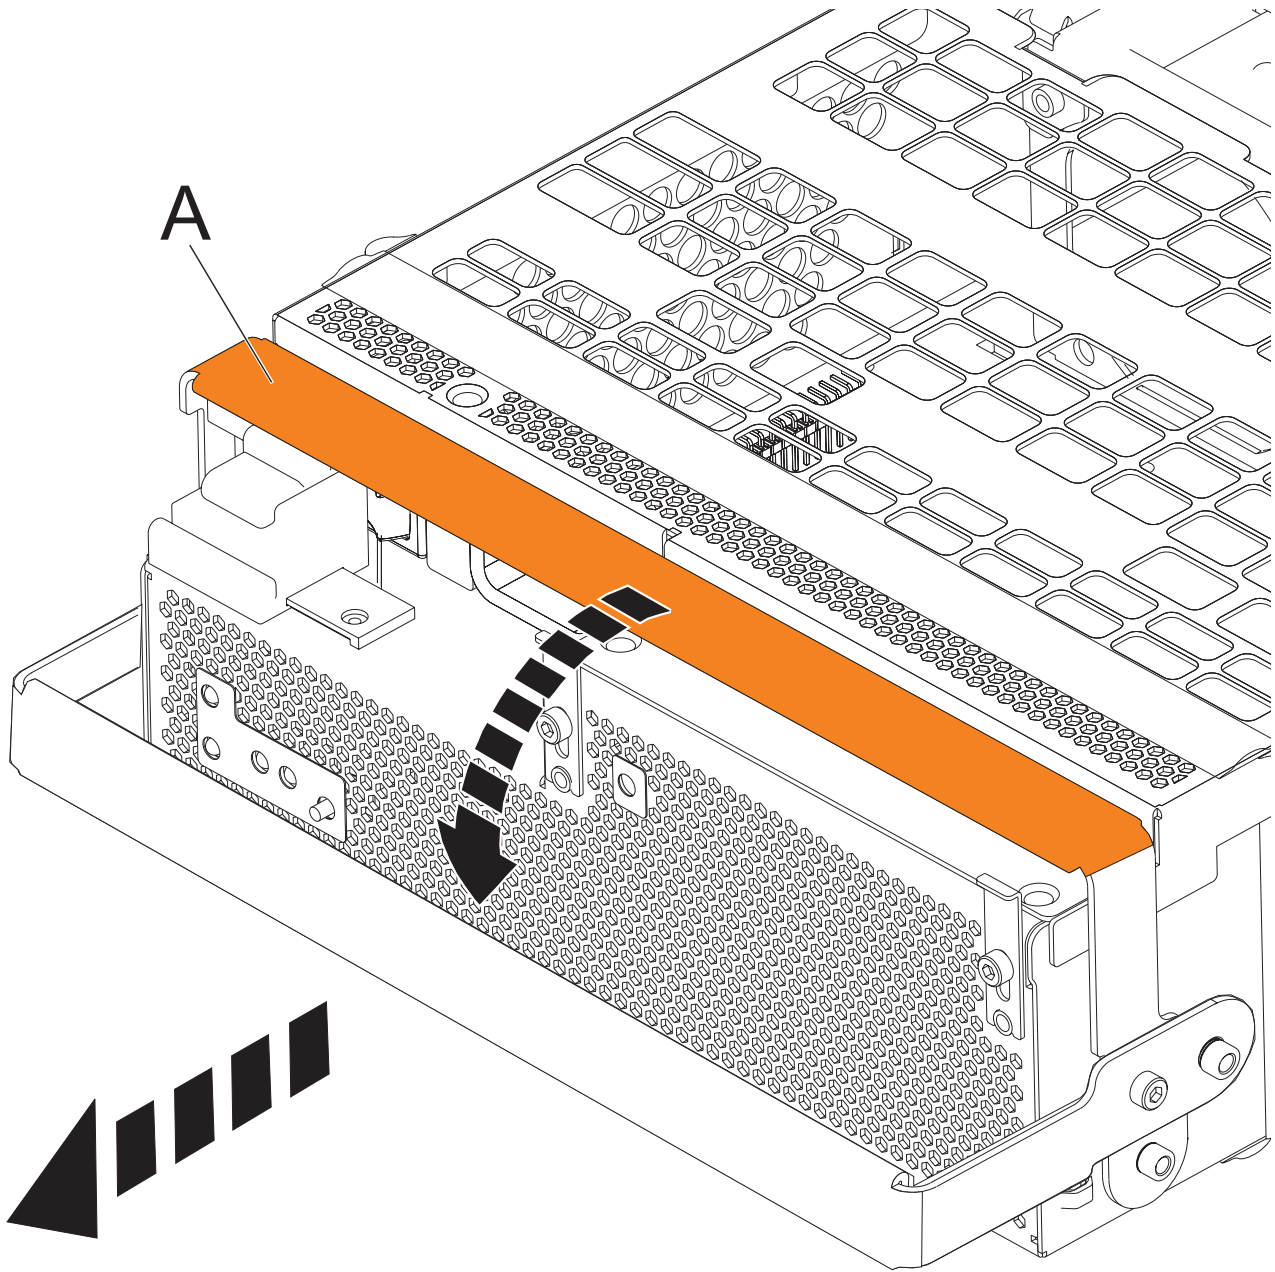

Figure 68. Remove the offline converter assemblies
- a. Pull the OCA handle (A) all the way down in the direction shown to unseat the OCA. See Figure 68 on page 86.